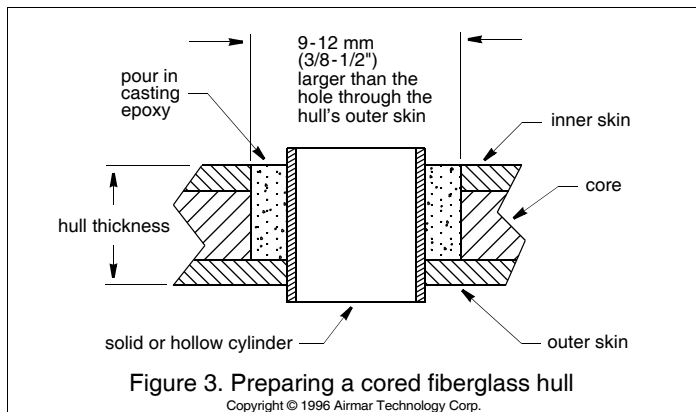

Figure 3. Preparing a cored fiberglass hull
- Using the 51 mm or 2" hole saw, cut the hole from outside the hull through the *outer* skin only (see Figure 3).